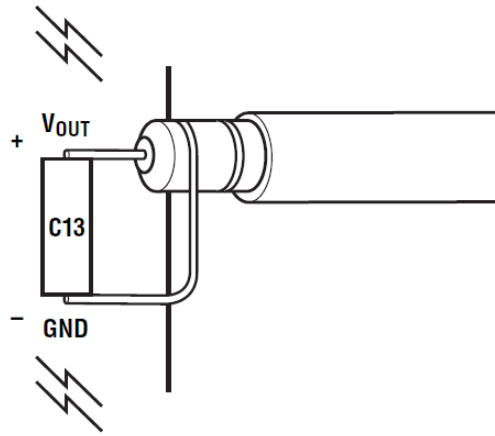

Figure 2. Measuring Output Ripple at Output Capacitor C13
7. Once the proper output voltage is established, adjust the load within the operating ranges and observe the output voltage regulation, ripple voltage, efficiency, and other parameters. **NOTE:** When measuring the input or output voltage ripple, care must be taken to avoid a long ground lead on the oscilloscope probe. Measure the output voltage ripple by touching the probe tip directly across the output capacitor. See Figure 2 for the proper scope technique.